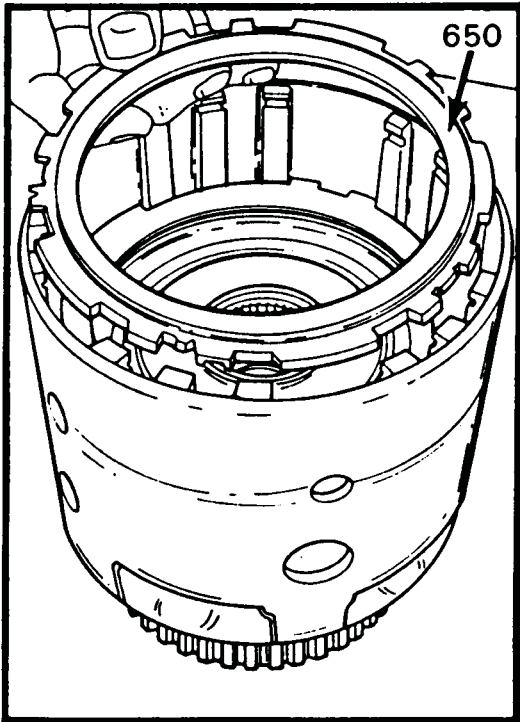

Figure 105
6. Install the forward clutch backing plate as shown in Figure 105.